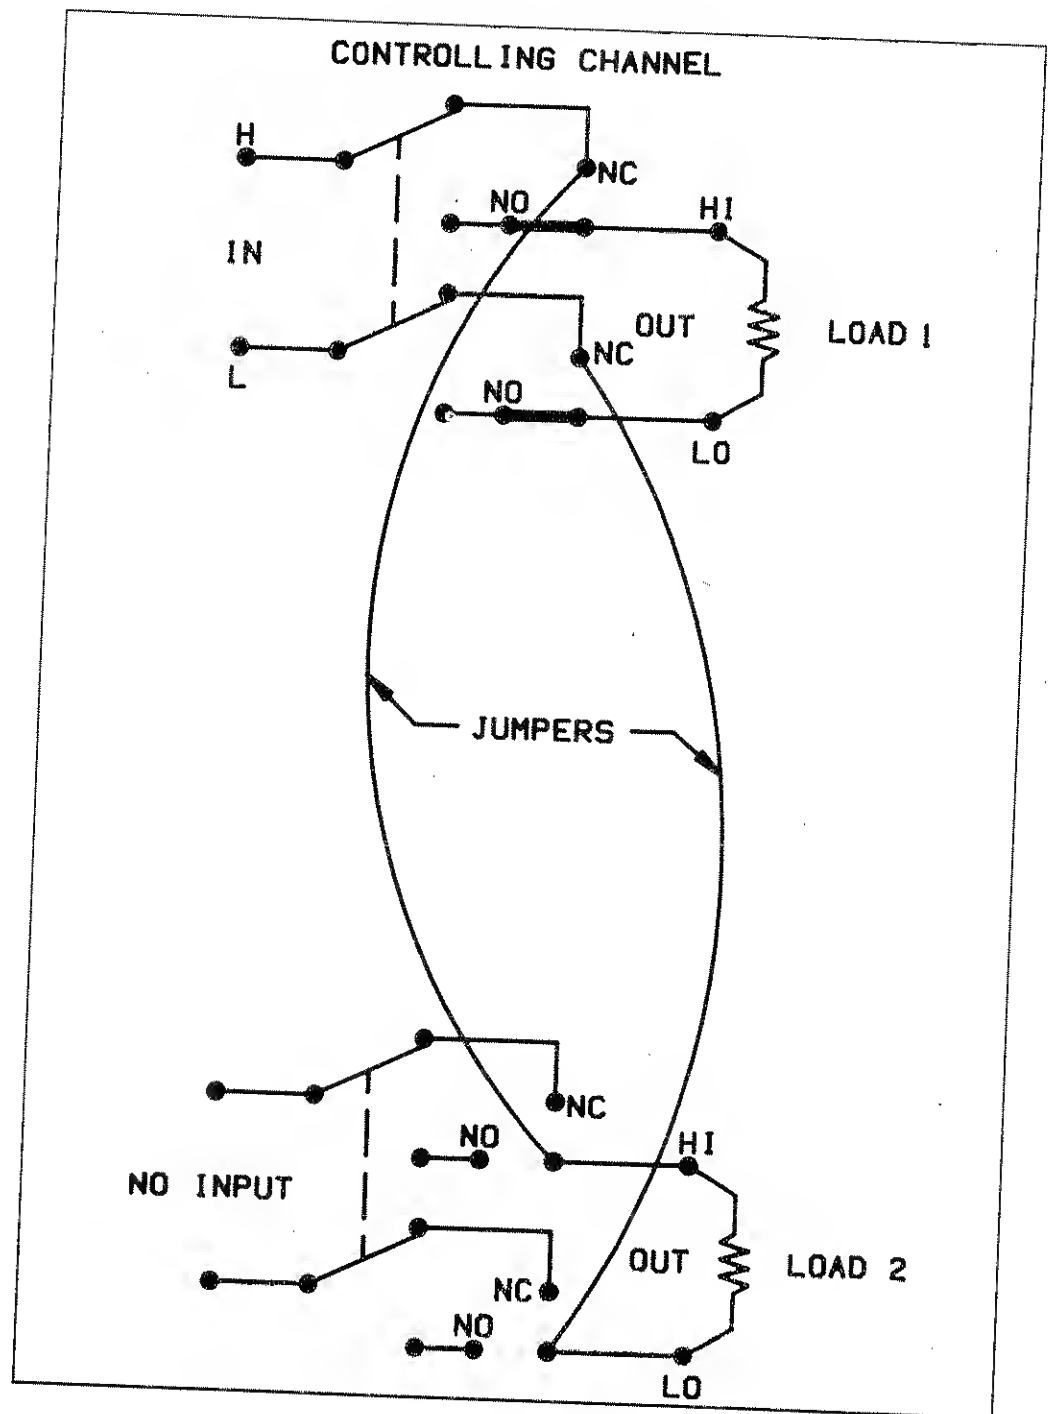

Figure 2-6. DPDT Configuration
**DPDT Configuration**—In this configuration, one relay is used to switch a double-pole input from one load to another. Referring to Figure 2-6, wire the relay card as follows: